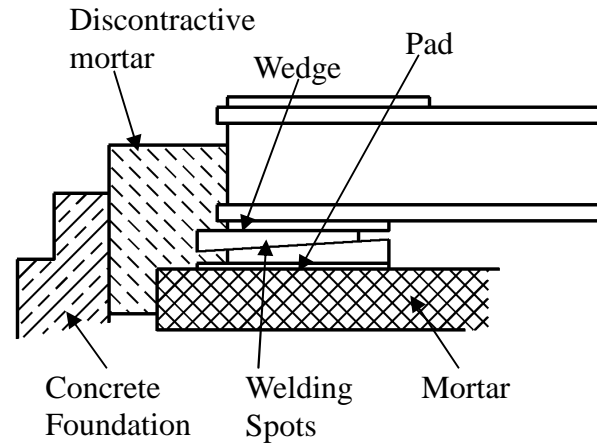

Fig. 3
- (d) Soleplate or common bed should be embedded in concrete foundation as illustrated in Fig.3. Stiff pads should also be installed beneath the wedges which are welded together at various spots about 400-500mm apart etc., to enable foundation to carry evenly the weight of the whole motor.